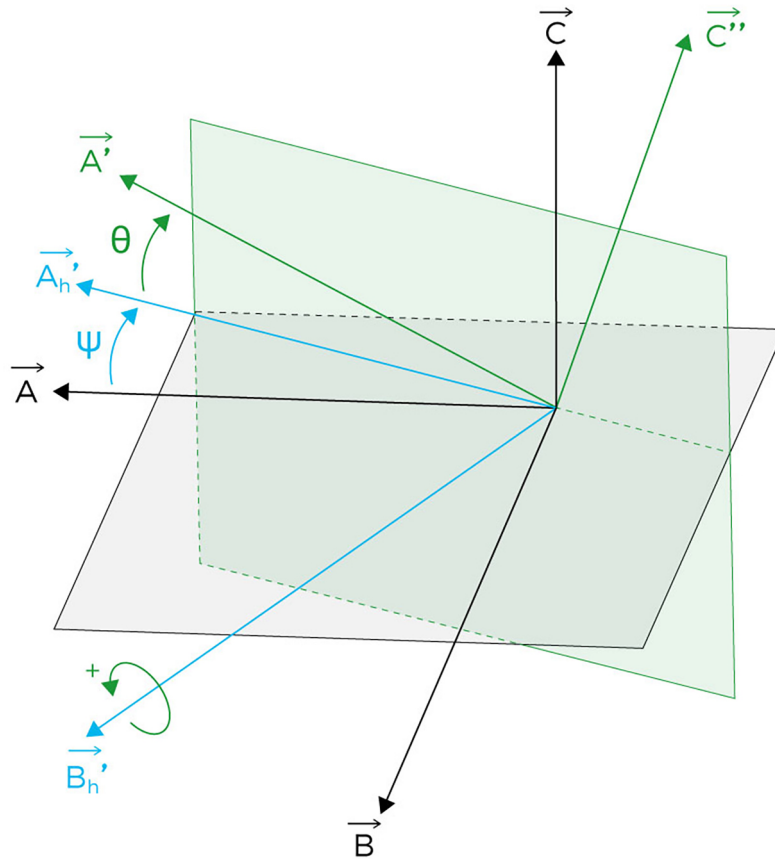

Figure 23 - Illustration of the second rotation around  $\underline{B}_h'$
2. Rotation of  $(\underline{A}_h', \underline{B}_h', \underline{C})$  around  $\underline{B}_h'$  **angle  $\theta$**  (see the Figure 23) to yield  $(\underline{A}', \underline{B}_h', \underline{C}'')$ .